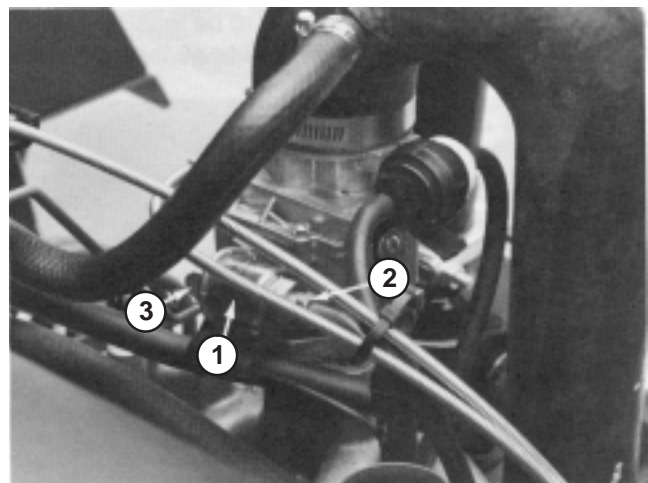

Figure 33
1. Disconnect elbow fitting from rear of fuel filter (Fig. 33).
2. Disconnect front of filter from elbow fitting (Fig. 33).